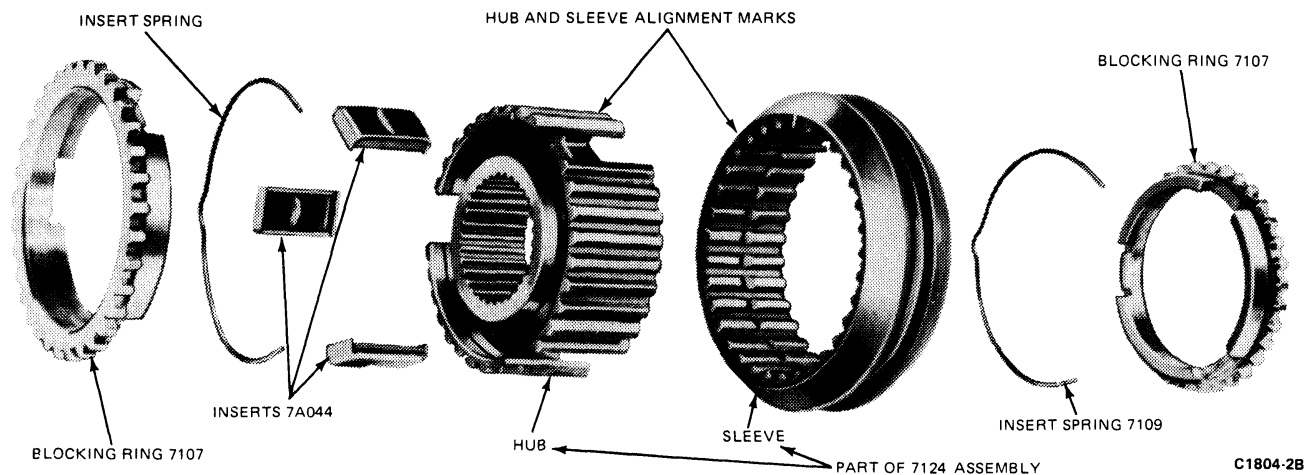

FIG. 26 Second-and-Third Synchronizer—Disassembled
4. Install one insert spring (Fig. 26) into a groove of the second- and third-speed synchronizer hub, making sure that all three insert slots are fully covered. With the alignment marks on the hub and sleeve aligned, start the hub into the sleeve. Place the three inserts on top of the retaining spring and push the assembly together. Install the remaining insert spring so that the spring ends cover the same slot as does the other spring. Do not stagger the springs. Place a synchronizer blocking ring on each end of the synchronizer sleeve.